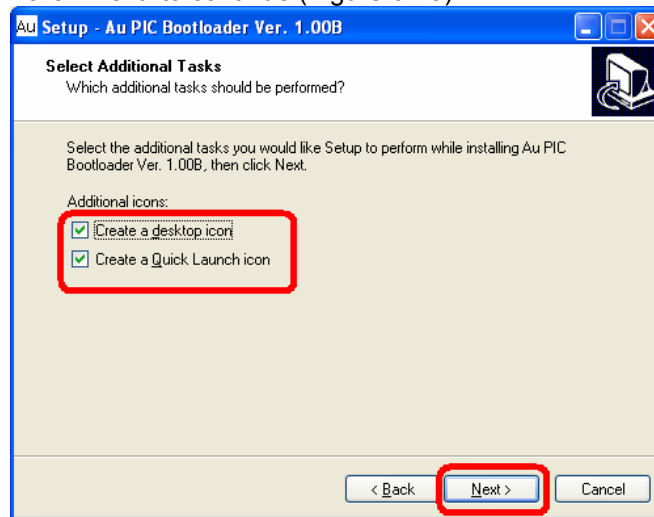

Figure 6-19
6. A “Select Additional Task” window will pop up, check both “Create a desktop icon” and “Create a quick launch icon”, and then click “next” to continue (Figure 6-19).